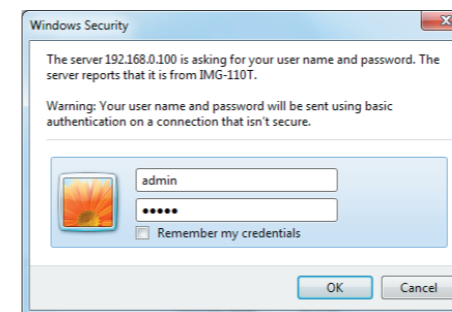

Figure 4-2: Web Login Screen
2. When the following dialog box appears, please enter the default user name and password "admin". The login screen in Figure 4-2 appears.